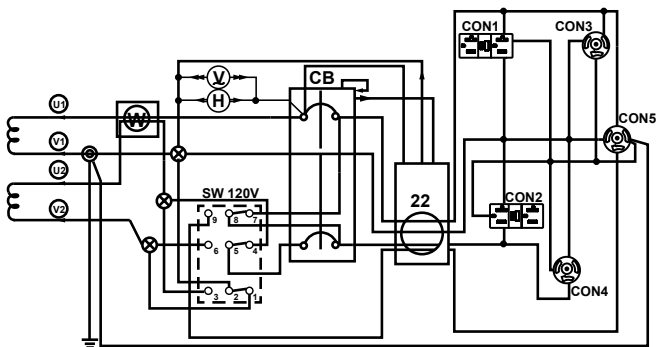
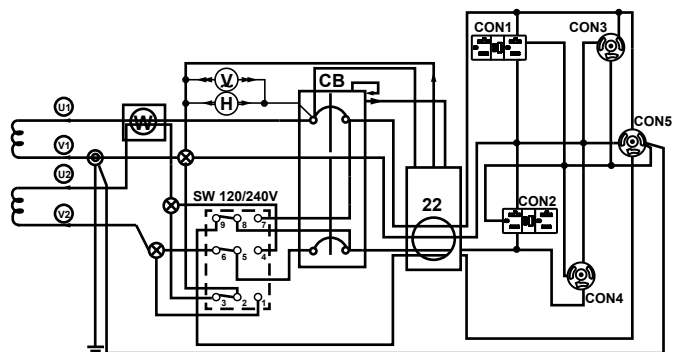

Figure 6. 120V Full Power Switch Simplified Diagram (Up Position)
Figure 7. 240/120V Full Power Switch Simplified Diagram (Down Position)
14. **Full Power Switch** – The generator is provided with a full power switch. Figure 6 and Figure 7 show simplified wiring diagrams of the dual voltage system.